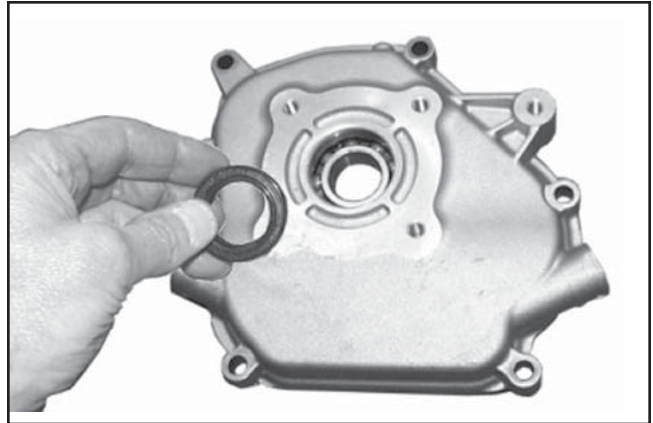

Figure 9-66. Closure Plate Seal Removal.
3. Remove the oil seal from the closure plate. See Figure 9-66.